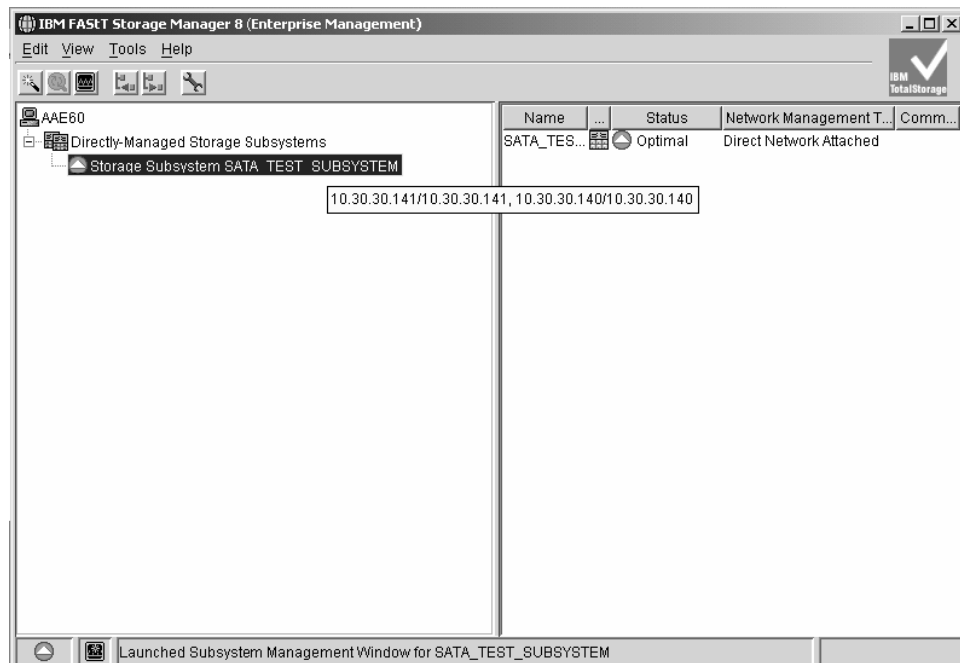

Figure 61. Only one entry appears in the Directly-Managed Storage Subsystem tree
- If controller A starts up successfully after synchronizing with the firmware and NVSRAM in controller B, controller A and controller B will be displayed as a single entry under the Directly-Managed Storage Subsystem tree in the Enterprise Management window as Figure 61 shows. Right-click the entry for controller B and select **Manage Device**. A Subsystem Management window should open without being preceded by the Partially Manage Device window.